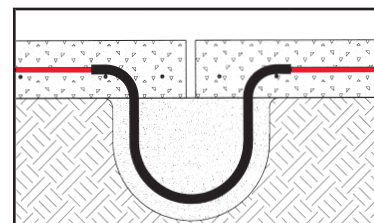

Figure 3.4.2 Expansion Joint Kit Section
**Expansion Joints . . .** Unless the slab is of monolithic construction, there will be expansion or construction joints which must be taken into account to prevent damage to the cable (Figure 3.4.2).